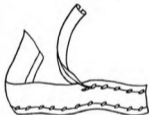

FIGURE 170
*Single Belts* (Figure 170). — Cut the belt the length of the established belt line plus  $\frac{1}{2}$  inch for seams and as wide as desired plus  $\frac{1}{2}$  inch. The belt may be finished by hand or machine hemming, tiny rolled hemming, picoting, or binding. Fasten the ends together with snaps, hooks and eyes, buttons (Figures 187, 188),